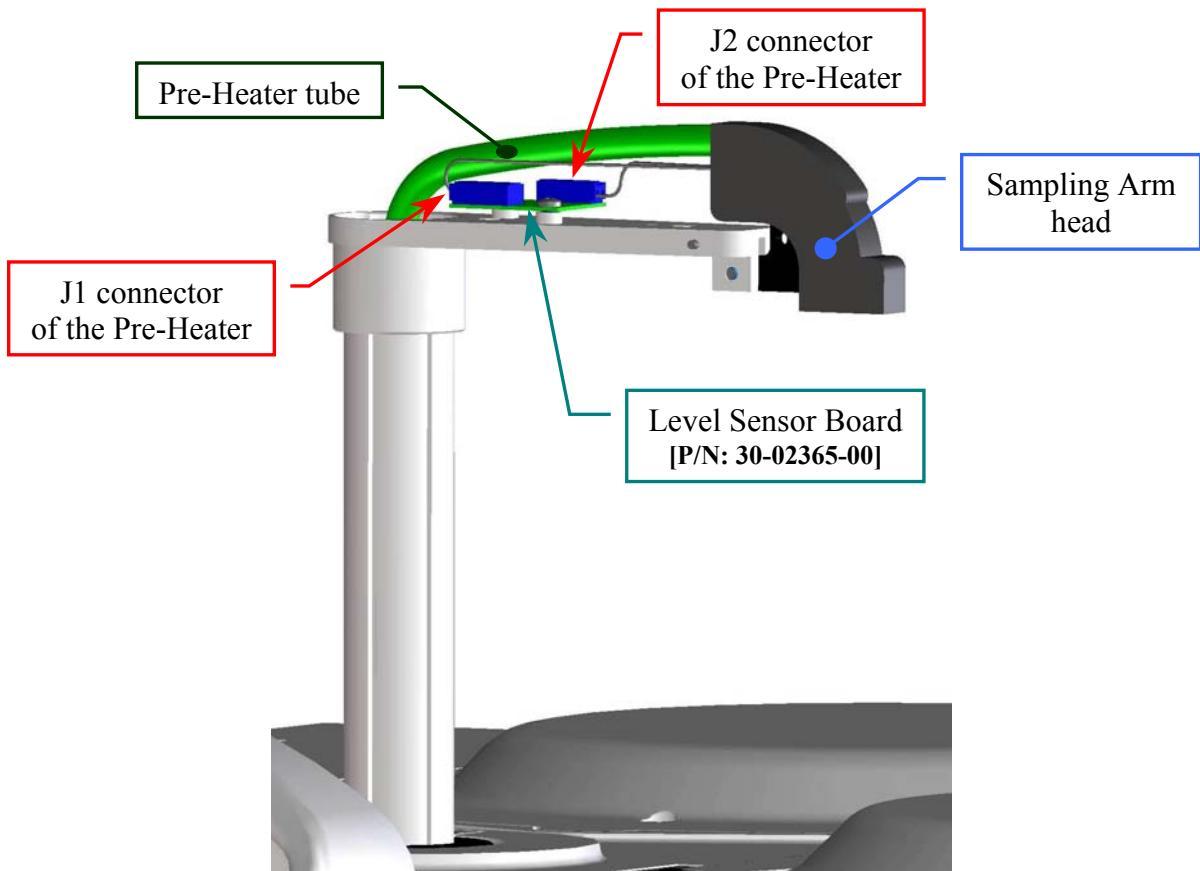
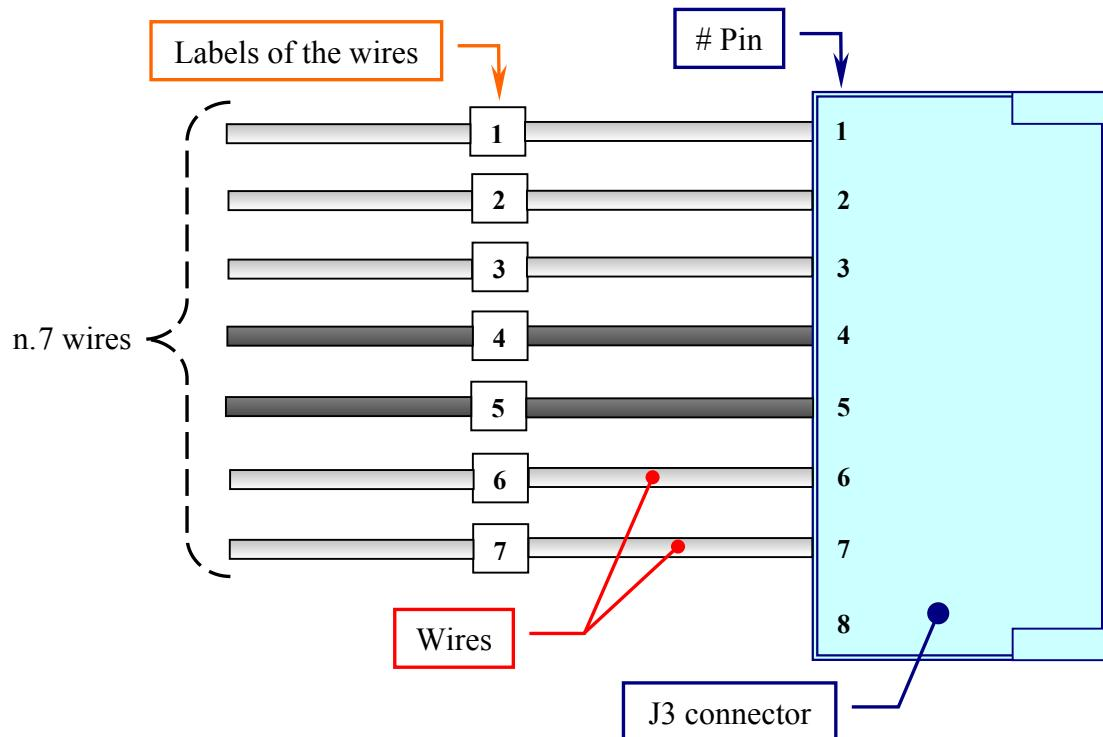
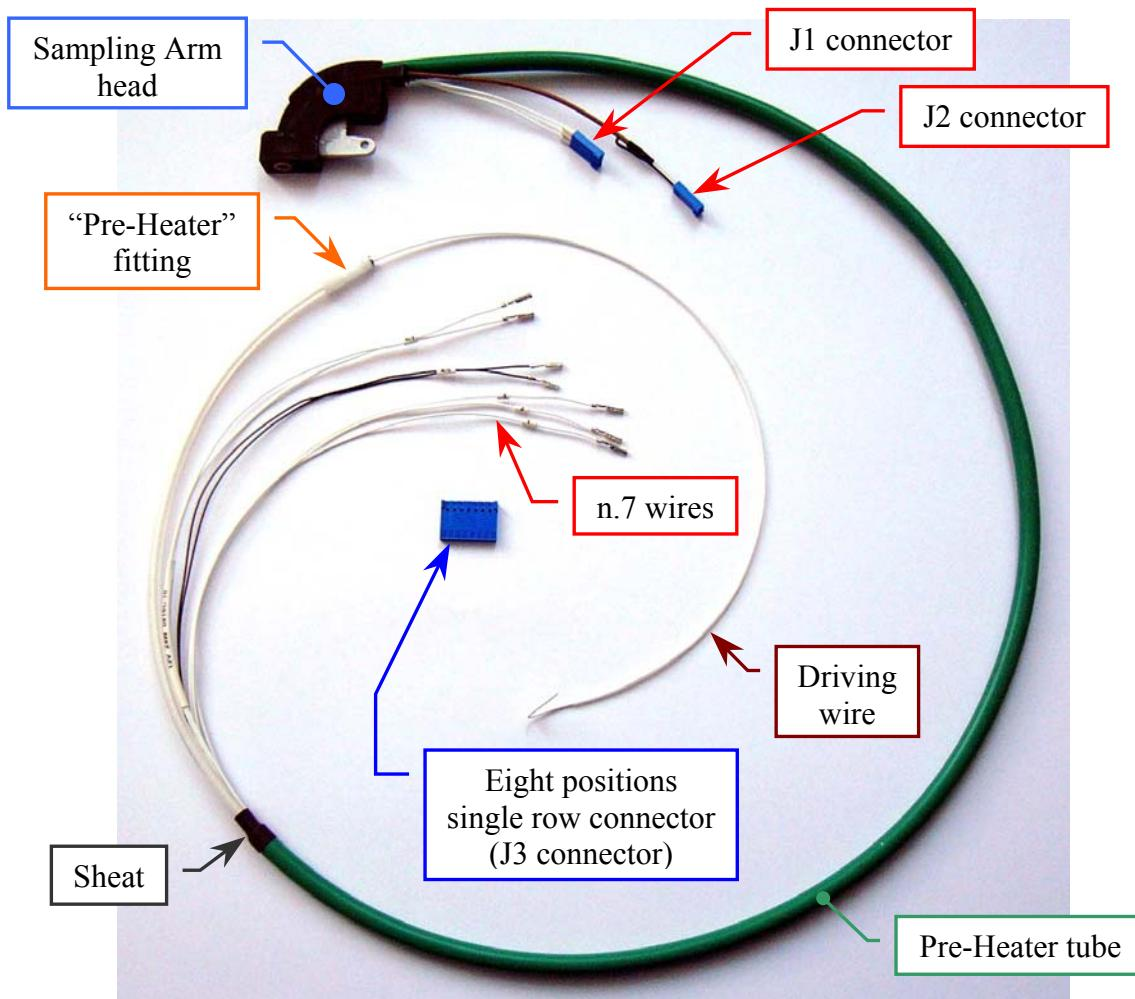
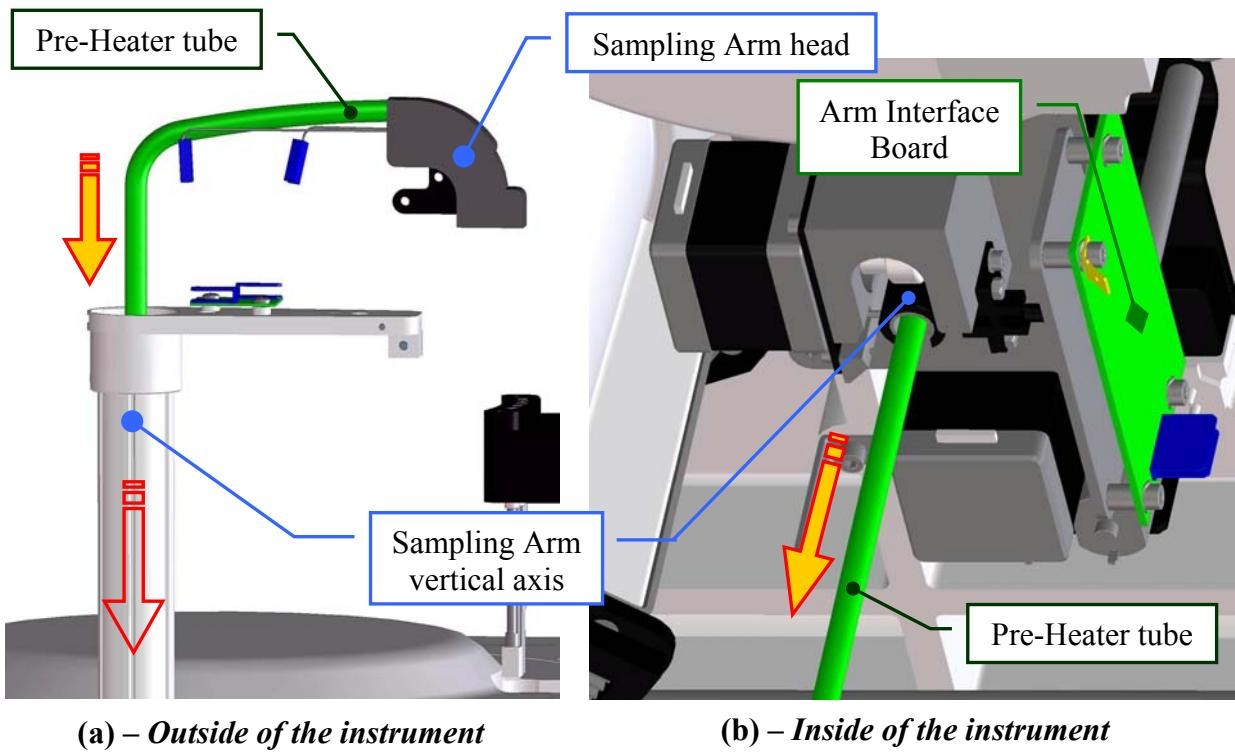

Fig. 45 – Head of the Sampling Arm
Fig. 47 – Connection scheme of the J3 connector of the Pre-Heater
Fig. 49 – Pre-Heater Assy [P/N: 10-02335-00]
Fig. 50 [(a), (b)] – Replacement of the Pre-Heater in the Sampling Arm
4. Unplug the J1 and J2 connectors of the Pre-Heater from the Level Sensor Board (compare the scheme SC-30-02193-00 and the **Fig. 45**).
10. Take out the seven wires of the Pre-Heater (read the relative note of the **Fig. 51**) from the J3 connector (**Fig. 47**) and remove it.
To replace the new Pre-Heater Assy (Fig. 49) perform the following steps:
12. Pull the Pre-Heater (tube and wires) in the interior side of the Sampling Arm vertical axis (as showed in Fig. 50(a) and in Fig. 50(b)) until you reach the placement showed in Fig. 45.
14. Plug the J1 and J2 connectors of the Pre-Heater (Fig. 49) in the J1 and J2 connectors – respectively – of the Level Sensor Board (compare the sch. SC-30-02193-00 and the Fig. 45).
16. Plug the seven wires of the Pre-Heater (Fig. 49) in the eight positions single row connector following the connection scheme showed in Fig. 47.
20. Extract the driving wire (Fig. 49) from the Pre-Heater.